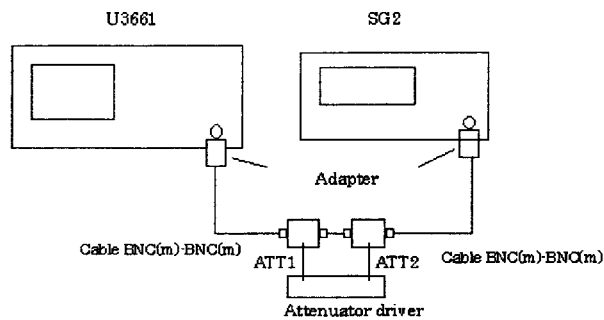

Figure 3-7 Setup of IF Gain Uncertainty Test
2. After AUTO CAL function has completed, connect equipment as shown in Figure 3-7.